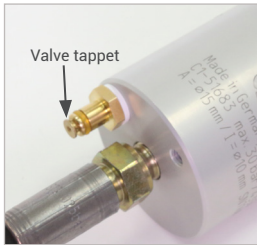

Figure 7
- ▶ Operate the valve tappet of the control - / bleeding valve (Pos. 3) (Figure 7). The pilot pressure applied is vented. The front seals (Pos. 7) / the main seals (Pos. 8) are relaxed, the connection to the test piece is released and the connector can be removed straight backwards.